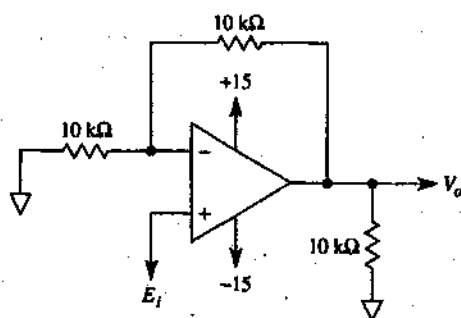

FIGURE P3-9
- 3-9. Identify the circuit in Fig. P3-9 and calculate  $V_o$ , if  $E_i$  equals (a) +5 V; (b) -2 V. Compare your results with Problem 3-5.
- 3-10. Repeat Problem 3-7 except apply it to Fig. P3-9. Compare solutions of both problems to distinguish between inverting and noninverting operation.